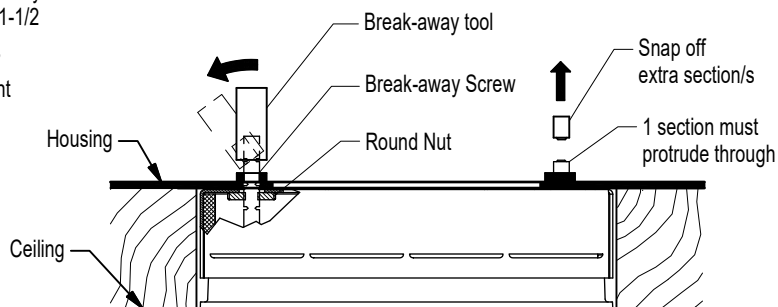

FIG 4.3 Fine adjust Trim Kit height & Break-away Screw height after installation
STEP 7 After completing height adjustment, break off Break-away Screw sections as needed to avoid interference with A & B lamping modules - FIG 4.3.
Adjustment Notes: Adjust each screw until Trim is level with ceiling & secure Trim position by hand tightening Round Nuts against Light Shield - FIG 4.3.
Slots in Trim screw bosses permit 6 deg of adjustment for aligning Trim Kit with ceiling opening, walls & other fixtures - FIG 4.3.